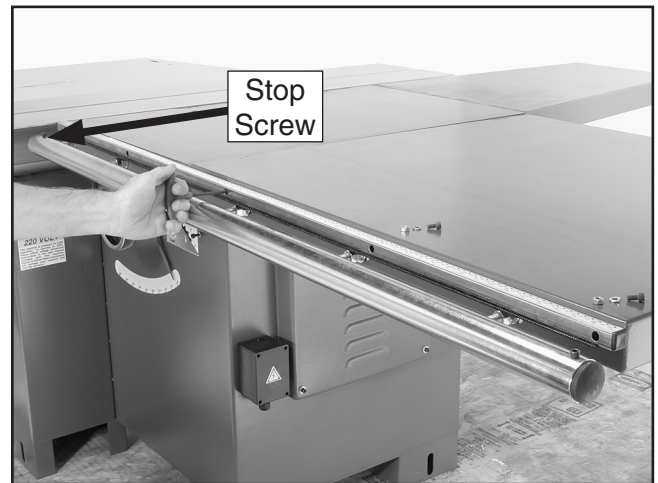

Figure 27. Attaching the scale.
4. Align the square tube w/scale parallel with the top of the table and secure it with the five cap screws, flat washers, and hex nuts (see **Figure 27**).